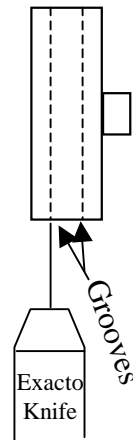

FIGURE 8
3. Start the drill and touch the wheel *lightly* with the tip of an Exacto knife (or another cutting implement such as a lathe knife) to make two grooves about 1/32" deep (see Figure 8). Then turn the blade slightly and remove the material between the two grooves. To keep the blade and wheel cool, apply drops of water to the wheel with an eye dropper while cutting.